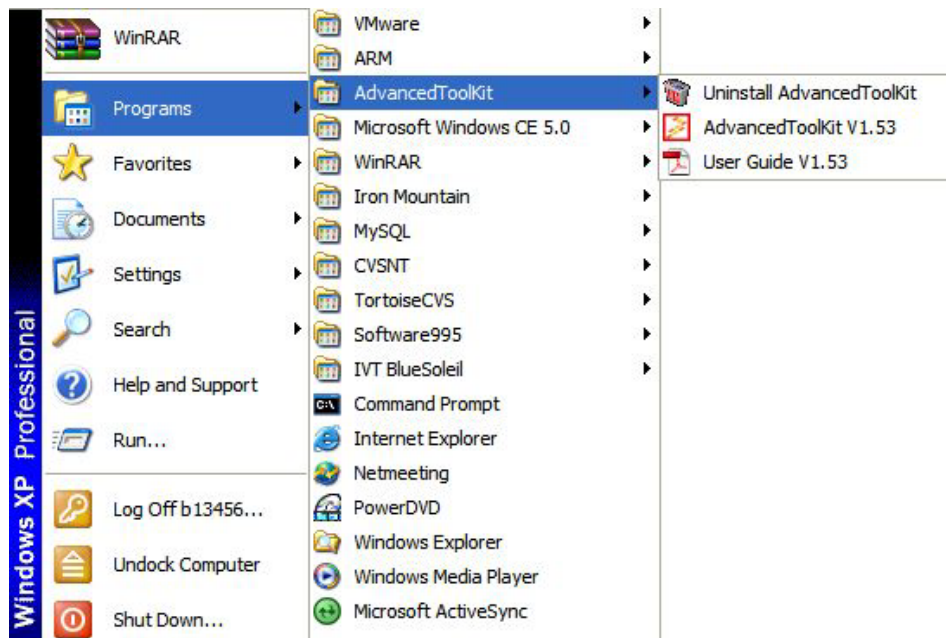

Figure 5-1 ATK Toolkit Location
After installation, to access the ATK tool, click **Start > Programs > Advanced ToolKit > AdvancedToolKit V1.53** (Figure 5-1).
5. Power up the 3-Stack board (the EBOOT startup sequence should appear in the serial console, as shown in Figure 5-1). If the EBOOT startup sequence is not displayed, program XLDR and EBOOT following the procedure in Section 5.3, Programming XLDR and EBOOT Using the ATK Tool.